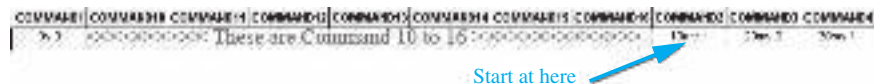

FIGURE 10.65 Command value of second digital source.
- Next, go to the properties of the second STIM1 digital source of the AND logic part. Enter “10 ms 1,” “20 ms 0,” and “30 ms 1” as shown in Figure 10.65. At 10 ms, the digital source switches to output 1; at 20 ms, the digital source switches the output back to 0. Finally, at 30 ms, the digital source switches to output 1 again.